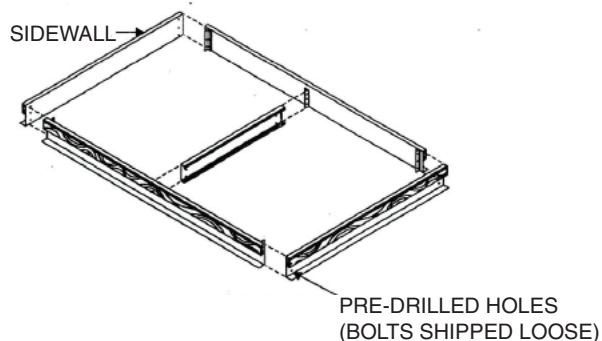

Fig. 5 — Roof Curb Assembly
2. Drive bolt the remaining support members using the pre-drilled holes and provided drive bolts. Turn out the flanges before fastening. See Fig. 5.